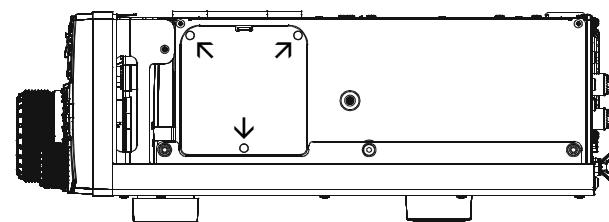

FIGURE 2
4. Refer to Figure 2, there is the metal plate on the right side of the transceiver. A mounting position of the optional filter is inside of this. Remove the three screws affixing the metal plate, then remove the metal plate.